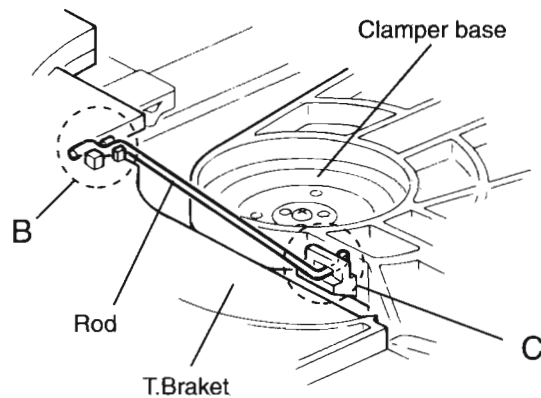

Fig.2
### ■ Removing the CD tray assembly (See Fig.2~4)
4. From the T.bracket section "B" and clamber base section "C", remove both of the edges fixing the rod(See Fig.2 and 3).